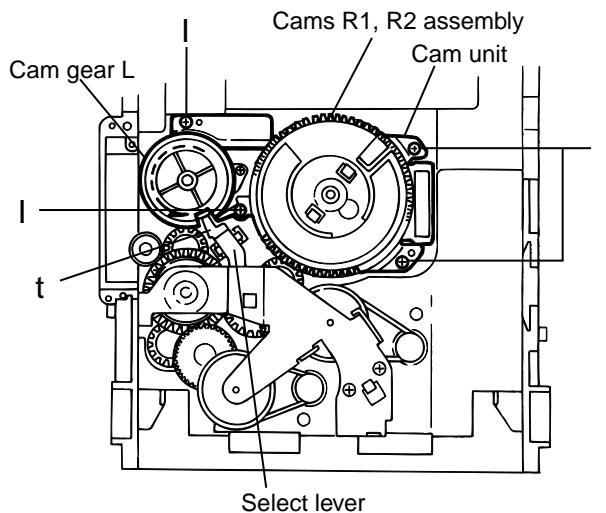

Fig.18
- While turning the cam gear r, align the pawl "t" position of the select lever to the notch position(Fig.18) on the cam gear r.
- Remove the four screws I retaining the cam unit(cam gear r and cams R1/R2 assembly)(See Fig.18).